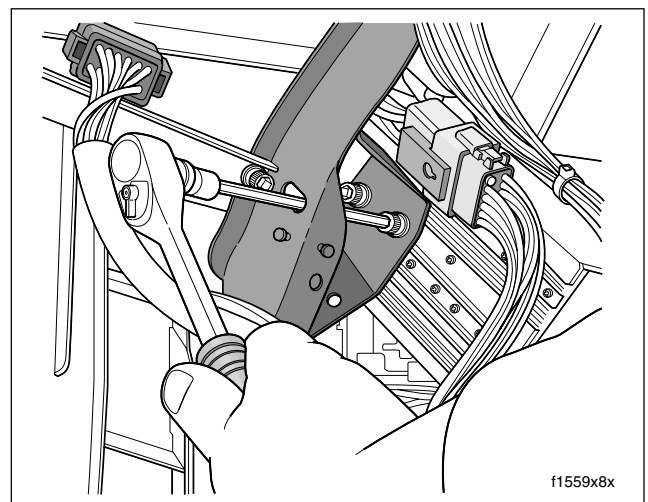

Figure 8-159. Release Radio from Fairing Brackets (FLHTC/U)
- a. Using a long shank ball end socket (Snap-on® FABL6E), remove four socket head screws to release radio (storage box on FLHT) from left and right radio support brackets. Use oblong holes in fairing brackets to access screws. See Figure 8-159.